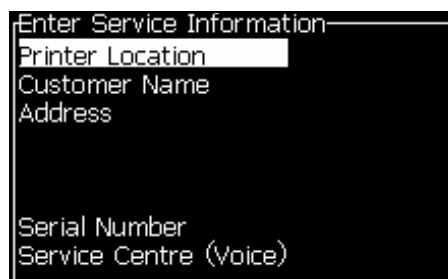

Figure 4-23: Enter Service Information Dialog Box
- 2 Select the *Enter Service Information* option and press the *Enter* key. The *Enter Service Information* dialog box appears (see Figure 4-23).